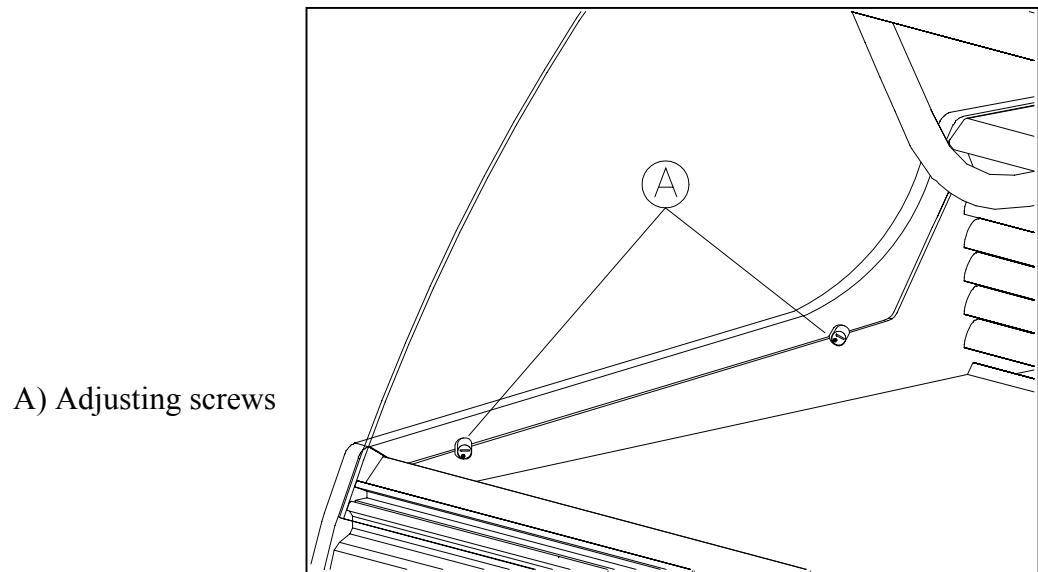

Figure 29
The gable-end panes in the merchandiser are fastened to the gable end in two special holders with adjusting screws, see figure 29 (A). The top of the gable-end glass is fastened to the light shade by means of a screw.